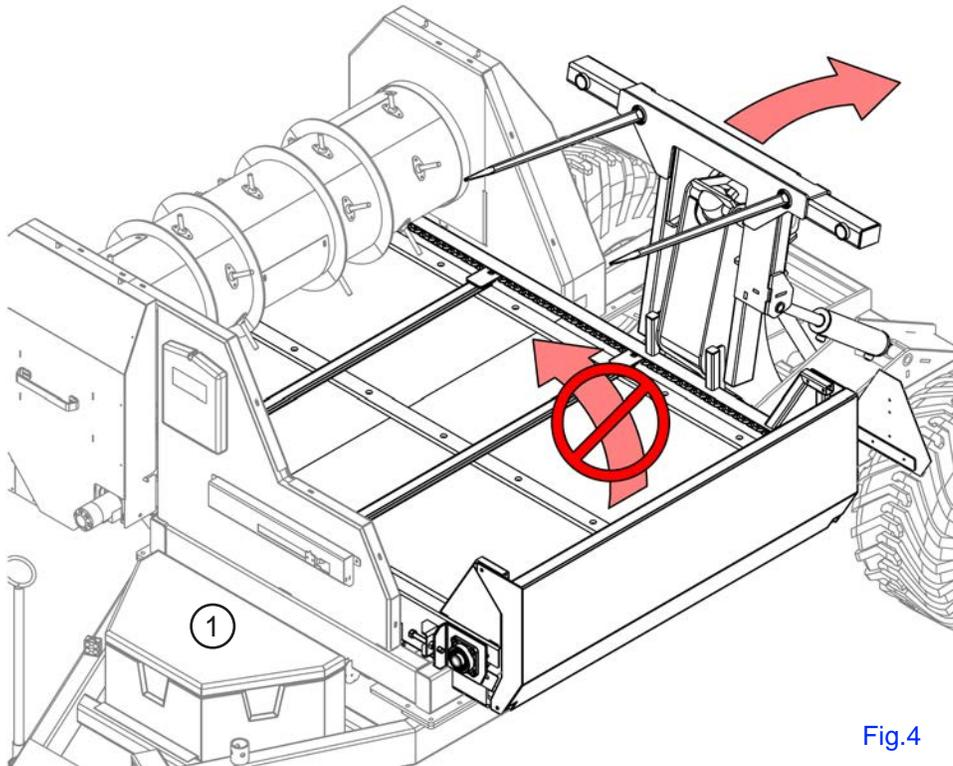

Fig.4
3. If bale has plastic or net wrap covering it can be easily removed once the bale is off the ground. The covering material can be placed in the front storage bin Fig.4 \(1\) until it can be properly disposed of.